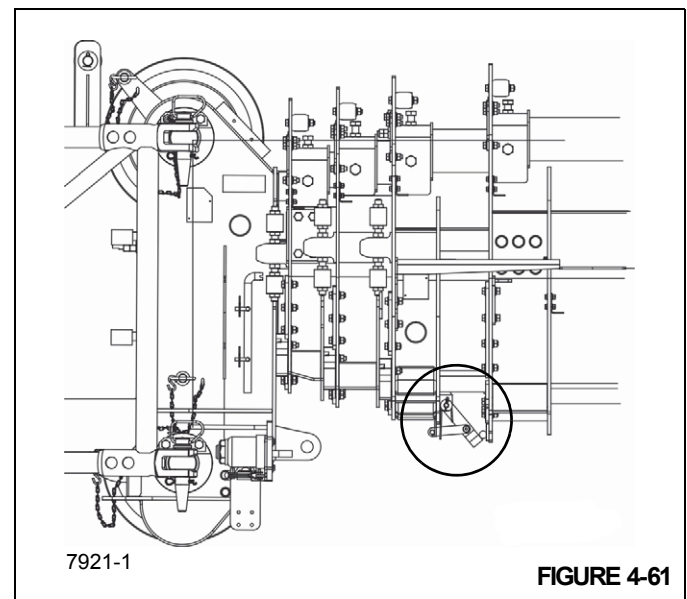

FIGURE 4-61
7. Extend the boom enough to disengage the spring loaded boom stop block (Figure 4-61).